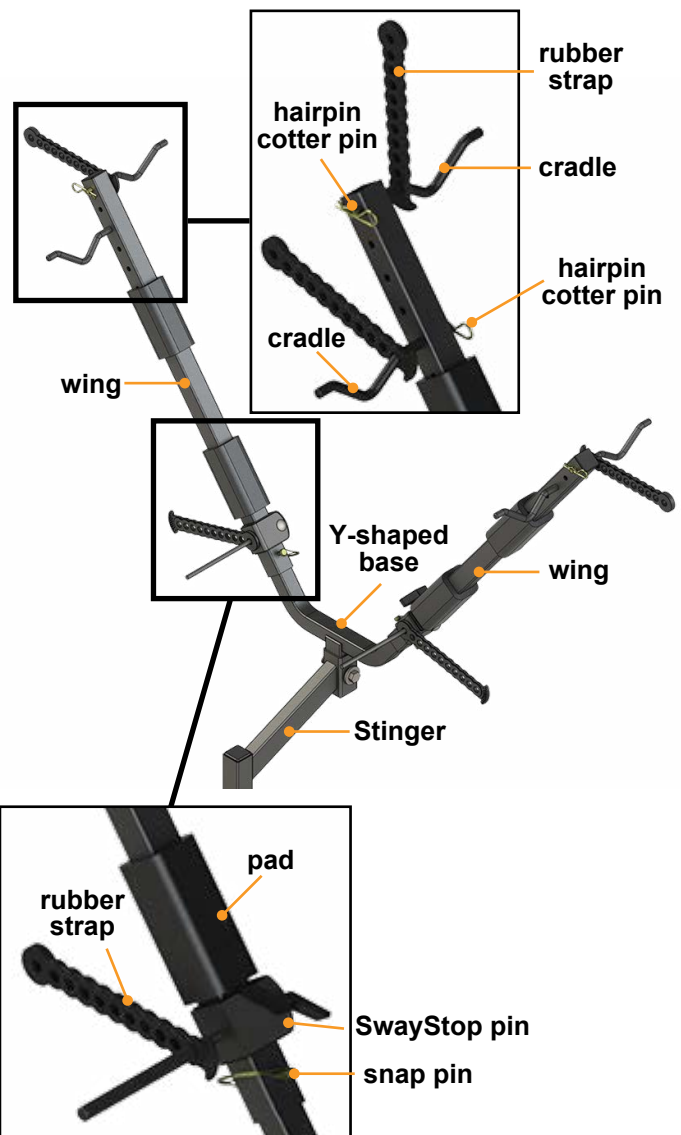

Fig.5
2. Slide one SwayStop™ pin onto each wing starting from the bottom so the SwayStop is between the snap pin and the pad (**Fig.5**). The pins should point in opposite directions.
3. Attach wings to Y-shaped base using two snap pins (**Fig.5**).
5. Attach four cradles, including two on each wing (**Fig.5**). Each wing should have one cradle facing forward and one cradle facing backward.